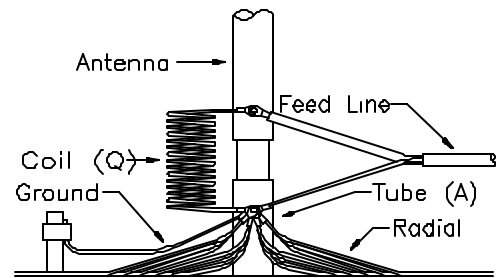

Figure 1
4. Attach radials onto the screw protruding from tube w/insulator (A) along with coil (Q) base matching, braid side of the feed line and bonding wire from the ground rod as shown in figure 1. Secure with the supplied flat washers and hex nuts.